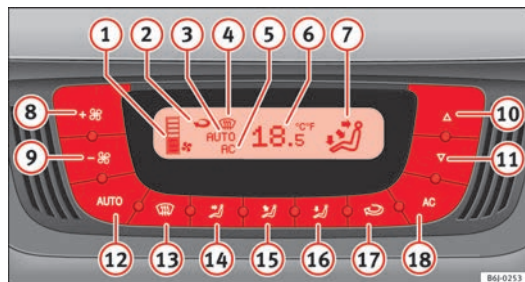

Fig. 104 Climatronic controls on the dash panel
- Press keys ⑩ and ⑪ ⇒ fig. 104 to adjust temperature.
- ① Blower level indicator.
- ② Air recirculation display:
- ③ Display **AUTO** (Automatic operation)
- ④ Demisting indicator
- ⑤ AC indicator (Cooling connected)
- ⑥ Interior temperature indicator selected
- ⑦ Air flow direction indicator
- ⑧ Fan speed increase
- ⑨ Fan speed decrease
- Press the button . The indication \Rightarrow fig. 104  is visible.
- Press keys  and  \Rightarrow fig. 104 to adjust the desired temperature inside the vehicle. We recommend 22 °C (72 °F).
- Press one of the buttons \Rightarrow fig. 104  to  or press the blower control  and  down. The indicator is switched off .
The blower can be adjusted with buttons  and  \Rightarrow fig. 104. If the blower is off (level  is not shown on the screen) and button  is kept pressed down, the Climatronic switches off. Then **OFF** is displayed on the screen.
- Press the button  to switch air recirculation mode on or off. This is ON if the symbol  => fig. 104 is displayed on the screen.